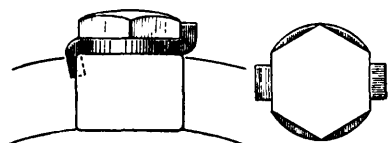

FIG. 3.
10. In assembling the Bendix drive, make certain that the two lugs on the end of the head portion fit into the slot of the sleeve portion; turn down the head screw until it holds the spring tightly in place and bend up the lip of the lock washer against a FLAT SIDE of the head of the screw (see Fig. 3). A new Woodruff key, No. 5, should be used if the old one is sheared or damaged. In assembly of the head portion make certain the Woodruff key fits into the keyway slot of the head, and that the key is not pushed forward into the space between the head and sleeve. With no Woodruff key connection between the Bendix drive head and the armature shaft the driving torque is transferred to the pilot of the screw which will